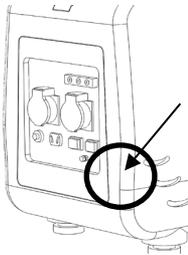

Fig. 1.6
- a. Hold an Angle Brace on a corner nearest to the electrical panel, slightly under the electrical outlets (Fig 1.6) with the grommet pins up and down.